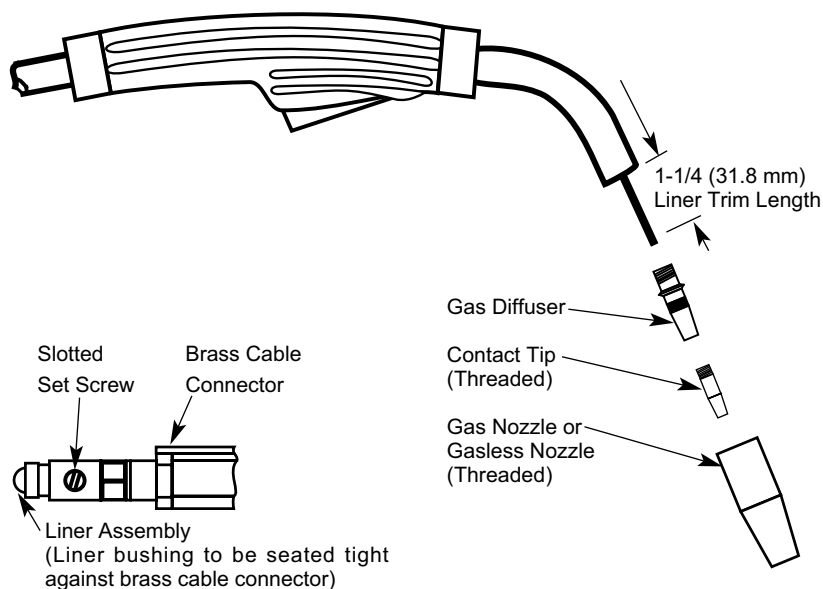

FIGURE D.2
2. Refer to Figure D.2. Remove the gas nozzle from the gun by unscrewing counter-clockwise.
1. Refer to Figure D.2. Remove the gas nozzle from the gun by unscrewing counter-clockwise.
NOTICE: The variation in cable lengths prevents the interchangeability of liners. Once a liner has been cut for a particular gun, it should not be installed in another gun unless it can meet the liner cutoff length requirement. Refer to Figure D.2.
8. With the gas nozzle and diffuser removed from the gun tube, be sure the cable is straight, and then trim the liner to the length shown in the Figure D.2. Remove any burrs from the end of the liner.